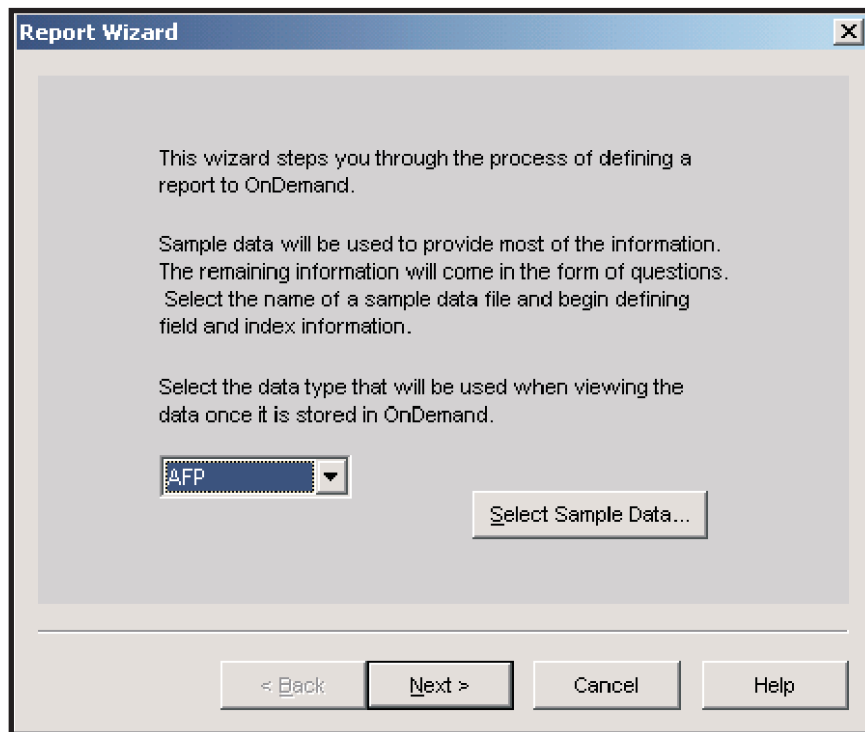

Figure 127. Starting the CM OnDemand Report Wizard
1. Identify the type of spooled file data you are defining. In our Super Sun Seeds example, we choose AFP, as shown in Figure 127. CM OnDemand can store other data types as well, such as SCS, SCS-extended, Line, PDF, and “user-defined” data.